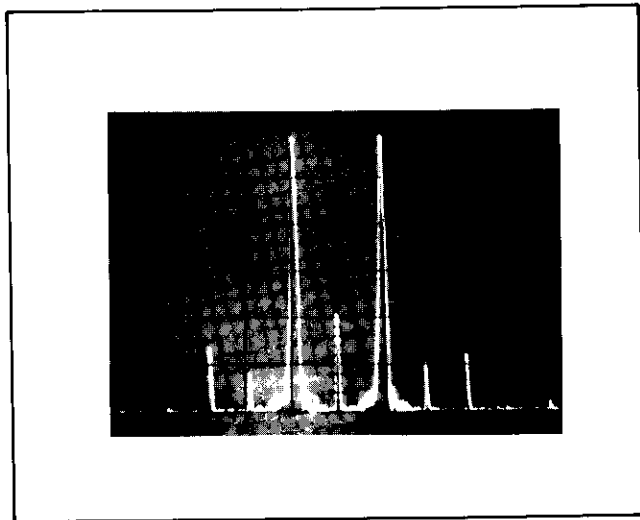

Figure 6. Balanced Modulator Output
20. Figure 6 shows the output of a typical  $\text{hp}$  Model 10534A, B Mixer when used as a balanced modulator, displayed on a  $\text{hp}$  Model 851A/8551A Spectrum Analyzer. A 30 MHz signal is being modulated by a 1 MHz signal. Vertical scale is 10 dB/cm. Horizontal scale is 1 MHz/cm. The 30 MHz signal is centered on the display and is shown to be about 40 dB down from the sideband output.